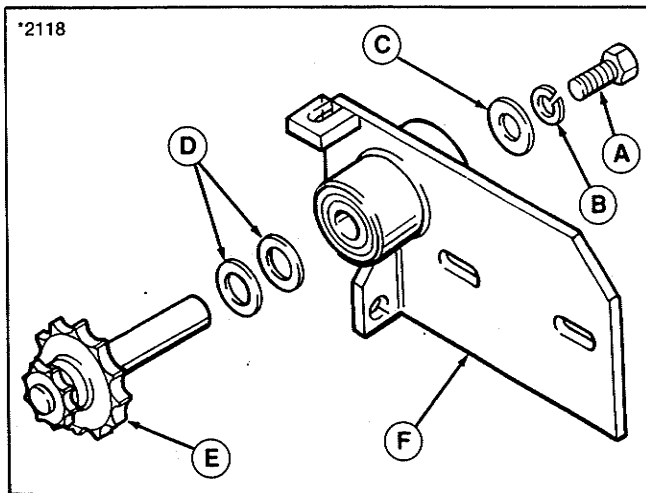

Figure 31.
1. Place a straightedge across the face of the drive (top) sprocket and the inner jackshaft sprocket. Washers (D, figure 31, 1-1/4" O.D., 3/4" I.D.) should be added between sprocket (E) and jackshaft plate (F) until sprockets are aligned. Rotate sprockets 180° and recheck alignment before adjustments are made. Remove capscrew (A, figure 31), lockwasher (B), and flat washer (C) from backside of sprocket shaft. Reinstall capscrew and tap on capscrew to remove sprocket shaft from jackshaft plate. Add washers (D) as required and reinstall sprocket shaft. Secure the sprocket with original washer (C), lockwasher (B), and capscrew (A).